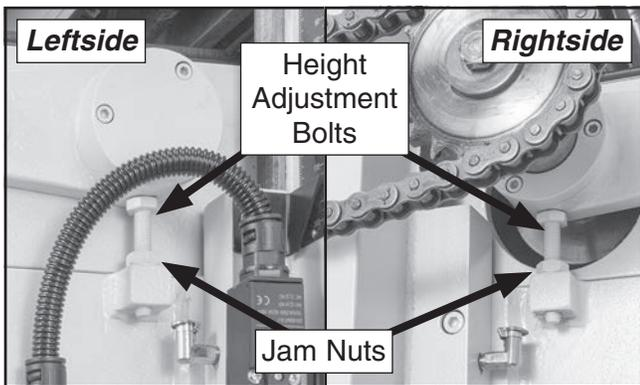

Figure 129. Location of rear lower pressure roller height adjustment hardware.
- Loosen corresponding lower pressure roller jam nut and height adjustment bolt (see **Figures 129–128**).